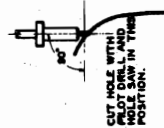

FIG. 1
1. Place the template supplied in the antenna package on the cowl and punch the center of the 1-1/32" hole with a center punch, using the 1/4" pilot drill of Hinkley-Myers J-1272-C tool to drill through the cowl at the angle shown in the top view of Fig. 1. After this hole is drilled raise the drill to a vertical position as shown in the lower view of Fig. 1 and drill through with the 1-1/32" cutter.